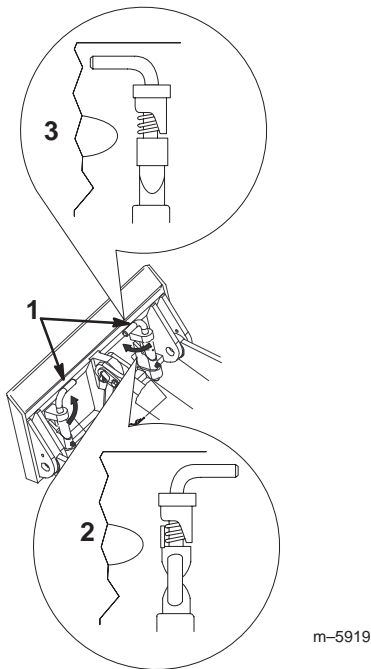

Figure 21
7. Engage the quick attach pins, ensuring that they are fully seated in the mount plate (Fig. 21).